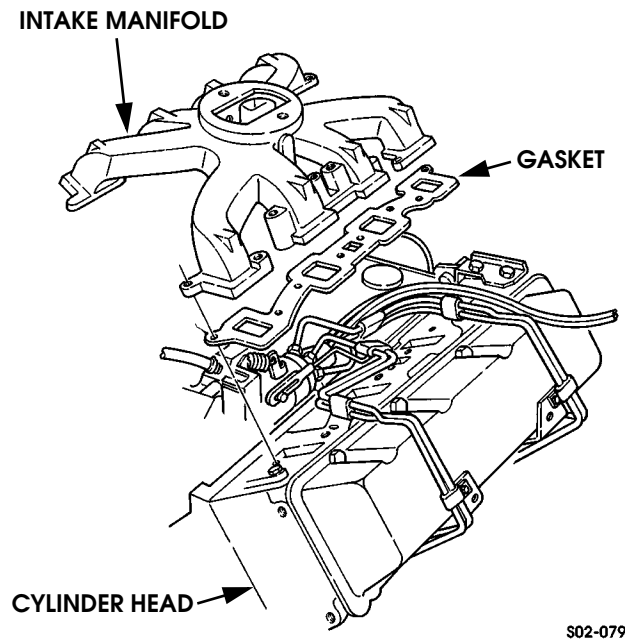

Figure 2-212: Intake Manifold Installation (NA Diesel)
1. Apply Permatex High Tack to intake manifold gaskets and position gaskets on cylinder heads (Figure 2-212).